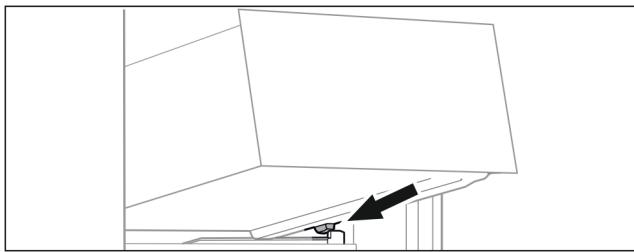

Fig. 33
- ▶ Place drawer at an angle behind the stoppers on the moulded rib. (see Fig. 33)